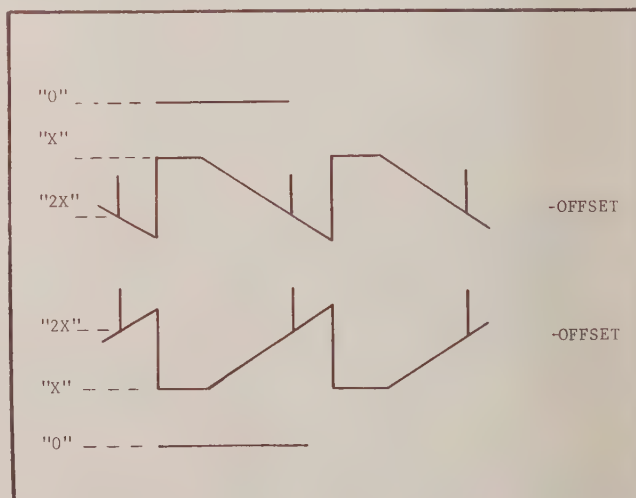

FIGURE 24. Offset to x and 2x. Figure 24A shows -offset and Figure 24B shows +offset.
2. Observe the added signals of Channel 1 (Integrator Output) and Channel 2 (Read Pulse). Set the Channel 1 AC/DC/GND Switch to AC, obtain a zero reference and then set the Switch back to DC. Observe the offset (dc shift) to x and 2x (Figure 24) which may be + or - depending on the mismatch of FETs. The maximum allowable offset between the zero reference and the Read Pulse (2x) is 30 millivolts. The Offset to x should be approximately one-half of that to 2x; approximately 15 millivolts. Nominal noise (grass) on the Integrator Output should be 4 to 5 millivolts.